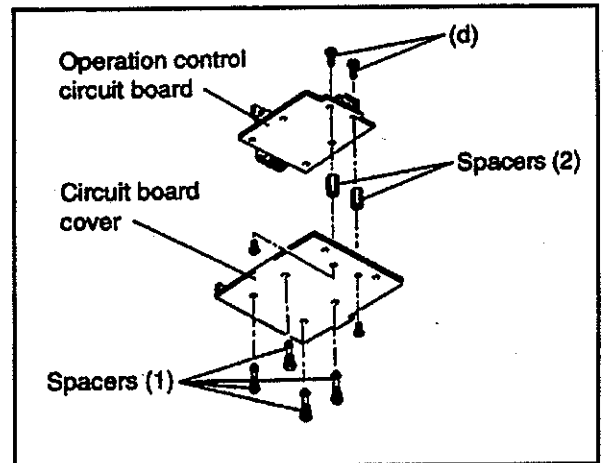

FIG.3
Note: Be sure to check that spacers (2) are firmly tighten when mounting the operation control circuit board to the circuit board cover (Fig.3).